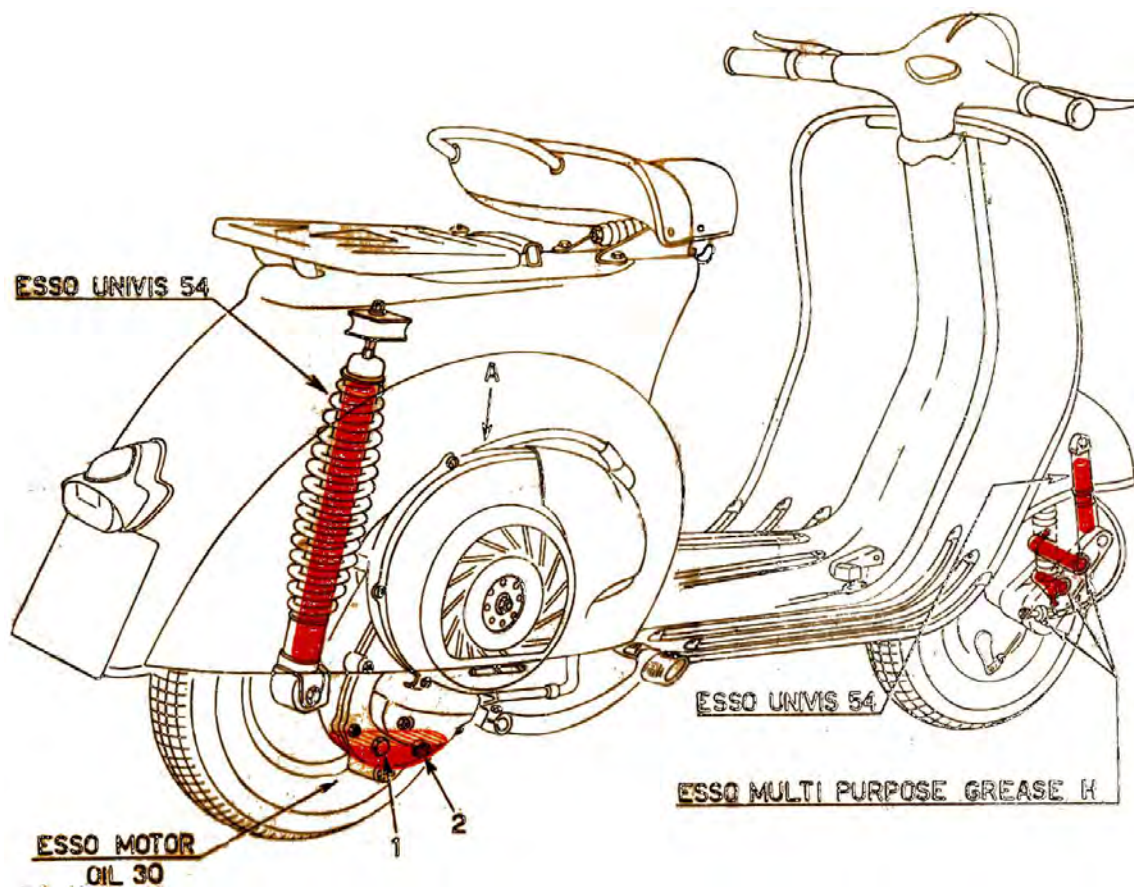

Fig. 21 - Lubrication scheme
**Before setting the machine in motion.** Check oil level in gear box by unscrewing from the crankcase, the level screw marked « OLIO » (see Fig. 21, No. 1 ). With the scooter standing upright, oil should just be about to flow out.